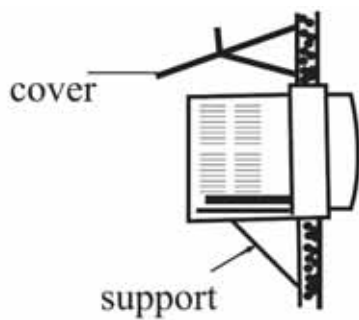

fig.1
1. Block the bottom plate hole of the conditioner with rubber lid, install drain elbows on the back hole and let the condensing water flow from the back hole of the conditioner. (See Fig.1)
1. The air-conditioner is better installed in shadow or in a place with short period of sunshine. In case the air-conditioner is installed at the point exposed directly to the sunshine, it should be protected from the direct sunlight as possible in order to avoid the long time of direct sunlight otherwise its performance will be lowered. (As illustrated in Fig. 1)